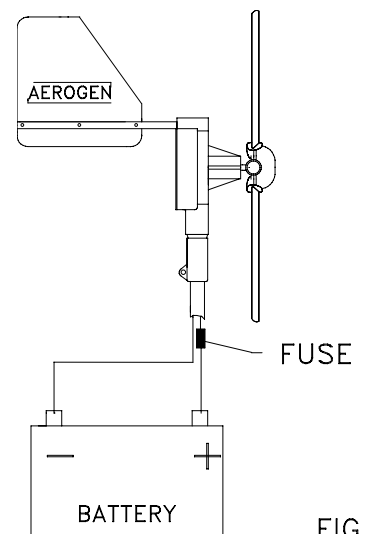

FIG.4
The output wires of the Aero2gen can be connected directly to the terminals of the battery that requires charging, as shown in Fig 4., however, if the terminal voltage of the battery is not continually monitored for over voltage (14.2v for 12v batteries) and (28.4v for 24v batteries) the battery can be seriously damaged. Fitting an LVM voltage regulator will protect the battery from becoming over charged. You may well have chosen a voltage regulator when purchasing the Aero2gen, but we would recommend you look at page 13 SELECTING THE CORRECT LVM VOLTAGE REGULATOR to make sure you have purchased the correct unit.
6. The output wires are then connected to the battery. See Fig.4 The white cable with the RED sleeve fitted is connected to the POSITIVE + terminal of the battery. The white cable with the BLACK trace down its length is connected to the NEGATIVE – terminal of the battery.